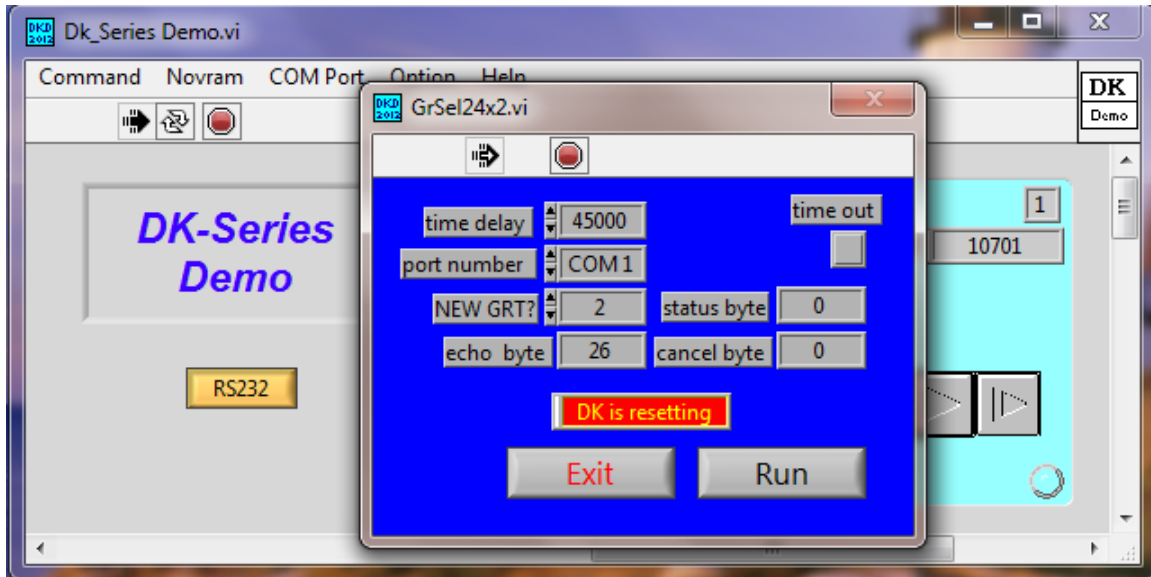

Figure 9 – Select
9.2.5 Select – This vi allows the user to select between gratings if more than one grating is installed (Fig 9). Enter the grating number in the NEW GRT? Box and press the Run button. A flashing message indicates the DK is resetting, and will close when the grating change is completed and the monochromator is ready to accept additional commands. Press Exit to quit the vi.